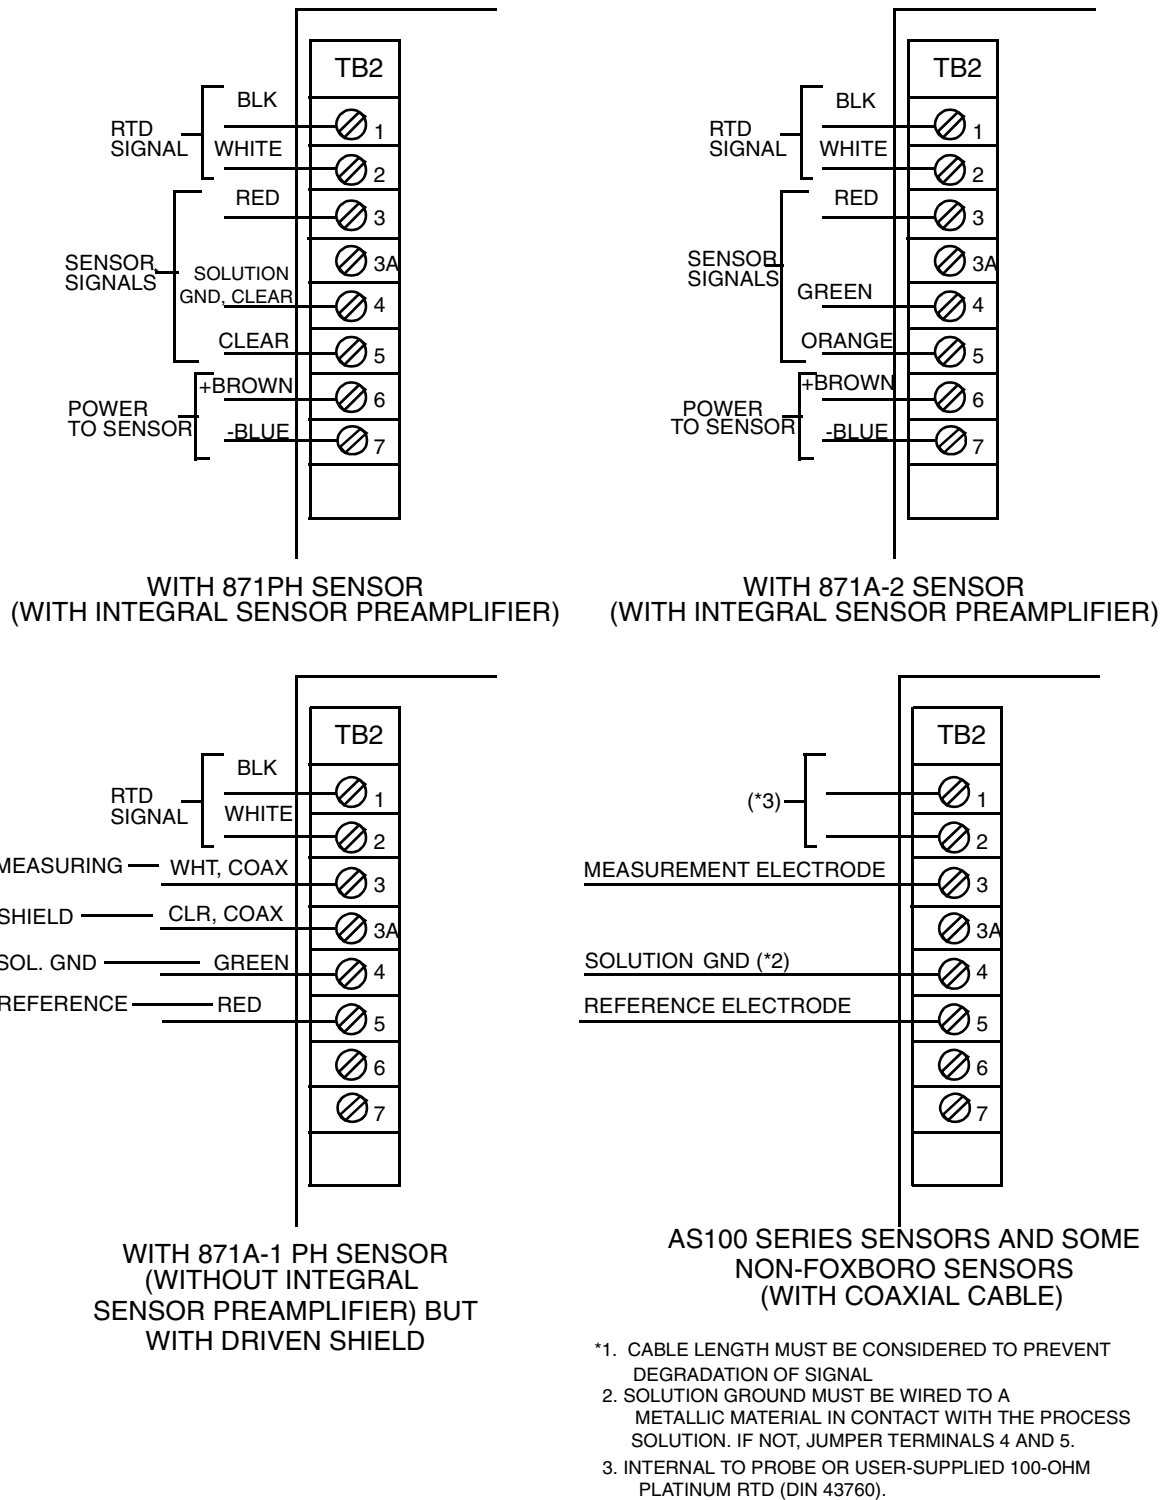

Figure 11. Plastic Enclosure Rear Panel Wiring for Sensor
5. Connect sensor wires to terminal block TB2 as shown in Figure 11.